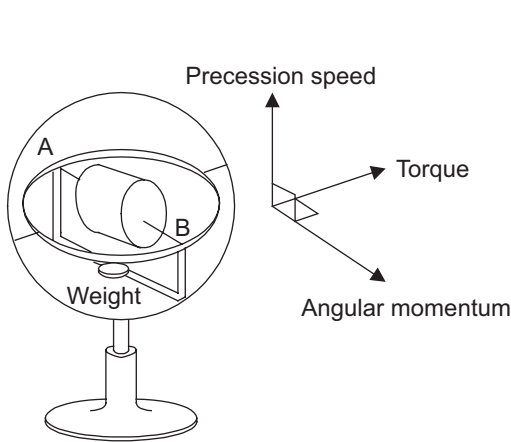
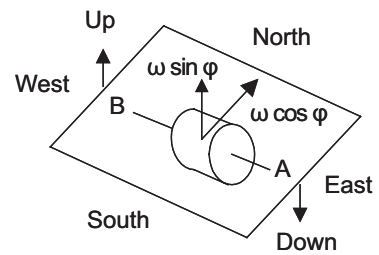
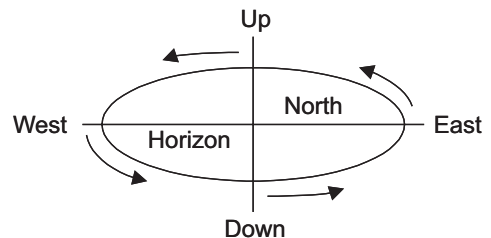

Figure 3
Figure 5
Figure 6
- (1) Quantitative: Angular momentum  $\times$  precession speed = torque
- (2) Direction: Vectors are shown in Figure 3.
Suppose that a weight is hanging under the supports as shown in Figure 3 such that the center of gravity for the entire gyro system, supports and weight is positioned directly under the intersection of two axes. If friction on both longitudinal and transverse supports is negligible at this time, the end of the longitudinal axis A oscillates up and down and right and left in an elliptical orbit due to the gravitational force and spinning action of the earth.
If the gyro shown in Figure 3 is placed on point p with A facing east and B facing west and with the A-B axis horizontal (Figure 5), the orientation of the gyro remains the same. However, since the inclination at this point on the earth remains the same as time elapses, the end-point A of the A-B axis rises and the end-point B goes down relative to the horizontal plane. Then, precession is carried out as the weight generates a torque to return the A-B axis to the horizontal position. When end-point A arrives at the meridian with the gyro tilted, the tilt is at its maximum and end-point A continues to turn towards the west. When end-point A enters on the west side of the meridian, the inclination starts acting so as to lower A. The torque caused by the weight gradually decreases and precession stops when end-point A reaches the west end. Then, likewise, end-point A goes down and begins pointing towards north. In such a manner, the orientation of the gyro spins around with north at its center in an elliptical motion as shown in Figure 6.